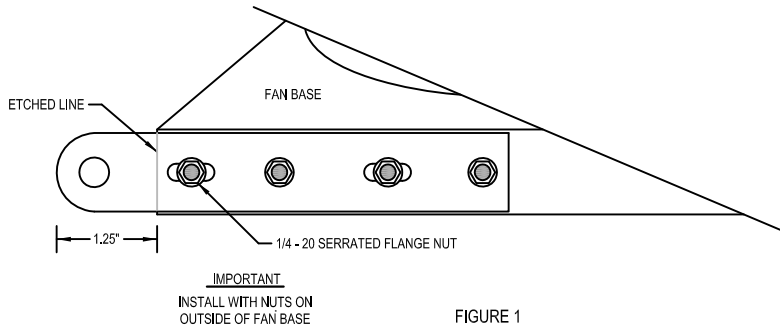

FIGURE 1
A - Place the fan base bracket against the side of the fan curb cap and position the bracket so the round hinge point is approximately 1-1/4" from the corner of the fan base. Use the etched line on the bracket for position guidance (See Figure 1). Hold the bracket against the fan base and mark through one of the oval cutouts onto the fan base side.
B - Using a 5/16" drill bit, drill through the marked spot on the fan base. Attach the fan base bracket to the fan base through the oval cutout in the fan base bracket using (1) 1/4 - 20 x 5/8" serrated truss head bolt, (1) 1/4 - 20 serrated flange nut. **IMPORTANT:** The truss head bolt should be inserted from the inside of the fan base and the serrated flange nut should be on the outside, contacting the fan base bracket. Verify the etched line on the fan base bracket is aligned with the corner of the fan base to maintain the 1 - 1/4" overhang from the fan curb cap (See Figure 1). Using the two remaining holes and the last oval cut out in the fan base bracket as a guide, drill three more holes in the fan base. Use (3) 1/4 - 20 x 5/8" serrated truss head bolts and (3) 1/4 - 20 serrated flange nuts to secure the fan base bracket to the fan base. Repeat steps A and B for the opposite side of the fan.